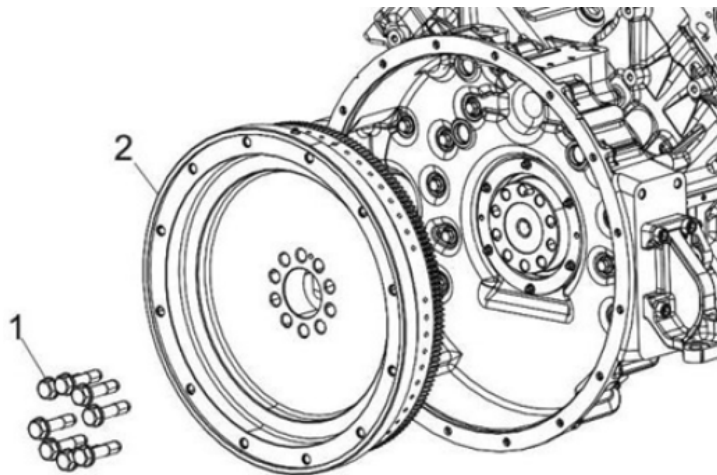

Figure 131.
10. Apply a film of oil to the threads and under the head of the flywheel fixing bolts (Figure 131, Item 1).
11. Using suitable handling, install the flywheel (Figure 131, Item 2) on the crankshaft.